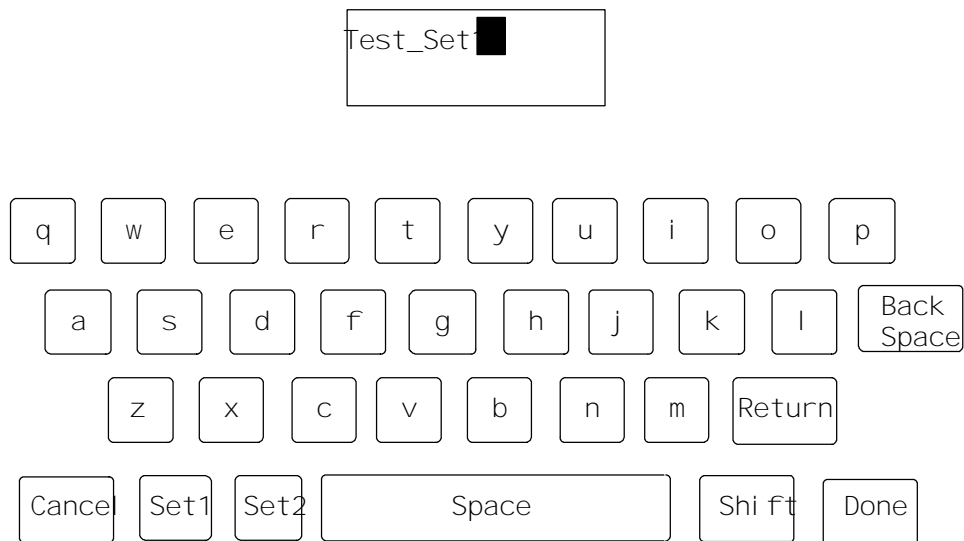

Figure 2-6: File naming keyboard
1. Press the **Create File** soft key. Doing so displays the prompt “Please select a file as template” at the top of the display. Touch the icon corresponding to the file you want to copy (normally System Default). This copies the contents of the selected file. To allow you to name the new copy, a box appears in the center of the directory window and a keyboard appears below it as shown in Figure 2-6. The characters you select (type) appear in this box.
- If the item that you touch is to be edited alphabetically, a keyboard appears on the lower half of the display screen (see Figure 2-6).
To Change a Text Line. Touch the line. A box appears around the line and the soft key keyboard appears below the directory window (see Figure 2-6).